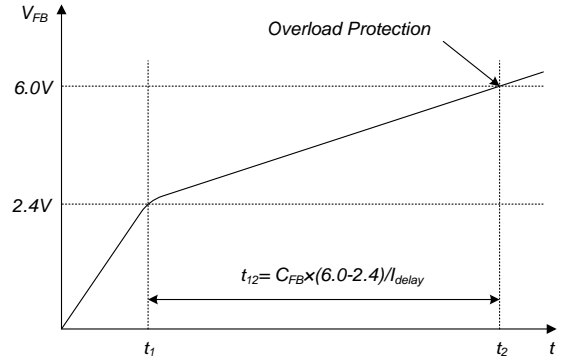

Figure 20. Overload Protection
2.4V, D1 is blocked and the $2.7\mu A$ current source starts to charge C_{FB} slowly up. In this condition, V_{FB} continues increasing until it reaches 6.0V, when the switching operation is terminated, as shown in Figure 20. The delay time for shutdown is the time required to charge C_{FB} from 2.4V to 6.0V with $2.7\mu A$. A 25 ~ 50ms delay is typical for most applications. This protection is implemented in auto-restart mode.